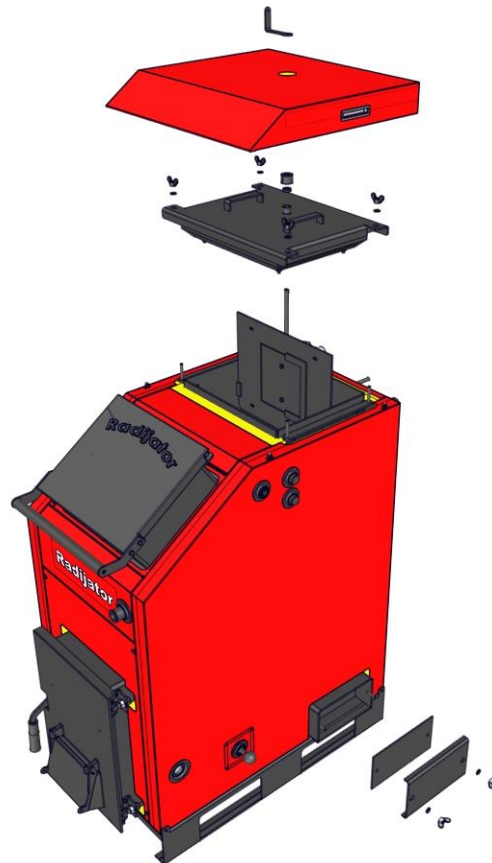

Figure 17. Shows revision openings for cleaning
- The boiler is constructed in such way that it is possible to clean upper exchange surfaces through the upper door of the fire place. When cleaning exchange surfaces in the aft part of the boiler, revision covers shall be dismantled to enable easier access to the exchange surfaces. (**figure 17**).